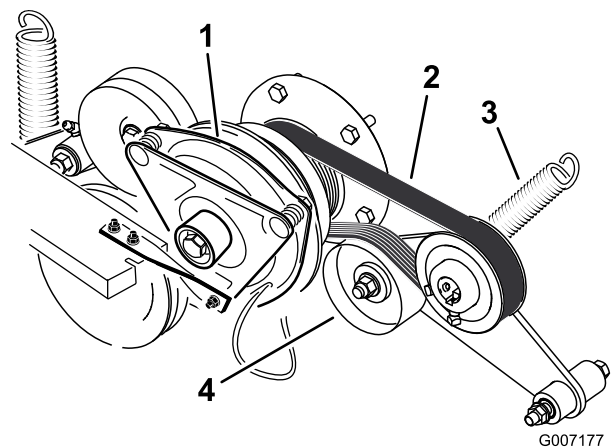

Figure 71
3. Remove the spring from the idler arm (Figure 71).
4. Install the new belt around the engine and hydro pump pulley (Figure 71).
6. Install the spring to the idler arm (Figure 71).